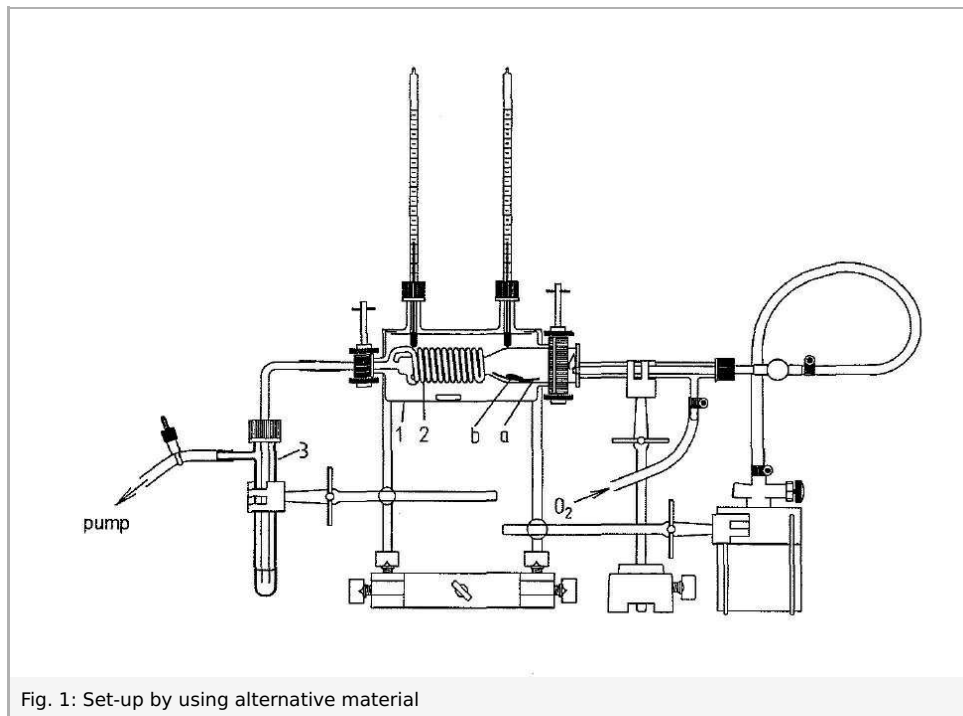

Fig. 1: Set-up by using alternative material
Set up the experiment as shown in Fig. 1. Mount the calorimeter insert (2) in the glass jacket (1) as explained in the instruction manual. Fix the assembled open calorimeter horizontally on two short rods as shown in Fig 1. About 500 g of water must now be filled into the glass jacket by pouring it in through one of the two vertical screw cap adapters (funnel). As the exact mass of this water must be known, first fill about 500 ml of water into the graduated vessel and weigh this on the balance to determine the mass ($= m_1$). Pour the water carefully into the jacket, without spillage, and re-weigh the graduated vessel ($= m_2$). The difference in the two weighings gives the mass of water filled into the jacket ($m(\text{H}_2\text{O}) = m_2 - m_1$).
Fix a universal clamp vertically to the barrel base and use it to hold the combustion lance horizontally. Fix a butane canister on the short rod as shown in Fig. 1. This will be used to generate a very small ignition flame. Connect this canister to the combustion lance with silicone hose, and the combustion lance to a source of oxygen (steel cylinder) as shown in Fig. 1. The tubing can be connected to the butane burner by screwing off the top of the burner and pushing the tubing over the thread of the burner base. Both ends of each tubing must be securely fastened with hose clips. Use an accurate balance to determine the mass of a prepared piece of one of the materials to be tested (about 0.5 to 1 g). Place it on a strip of ceramic paper and slide
it well into the combustion chamber of the calorimeter (see Fig. 1: a = ceramic paper, b = test sample).